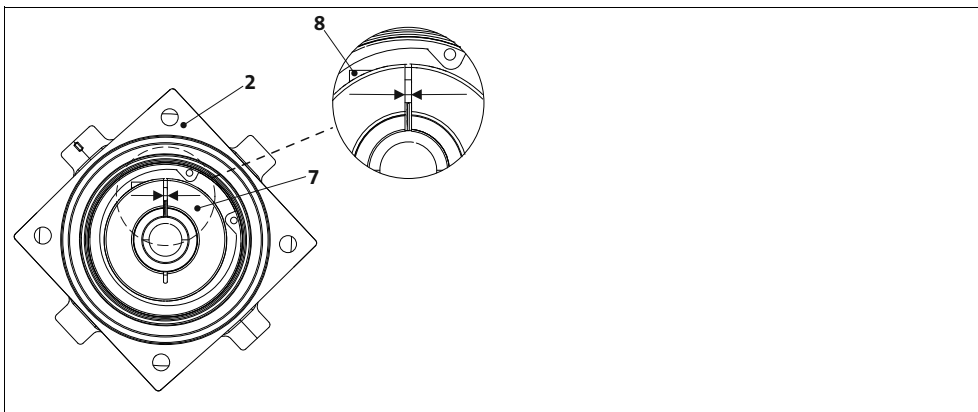

Fig. 5 Assignment: Motor shaft, clamping ring and mounting hole
3. Align the slots of the gearbox drive hollow shaft and the clamping ring to each other and to the mounting hole (Fig. 5).